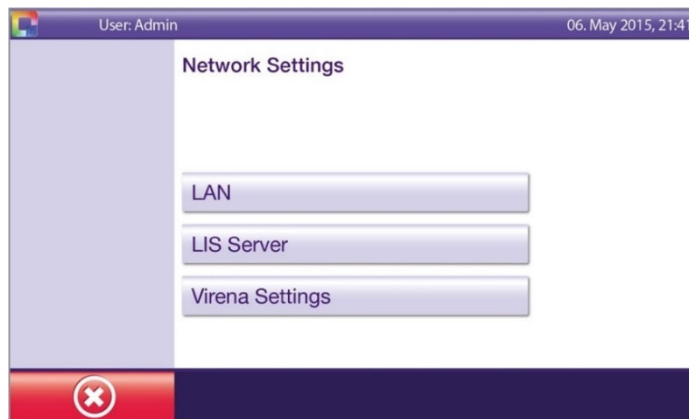

Figure 24
LAN, and LIS Server can be programmed (Figure 24). Virena Settings is set to default OFF.
- To modify **LIS Server** settings, touch the **LIS Server** button (Figure 24).
- To modify **Virena Settings**, touch the **Virena Settings** button (Figure 24).